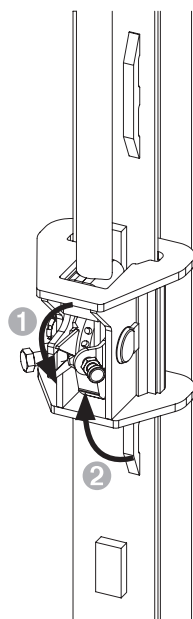
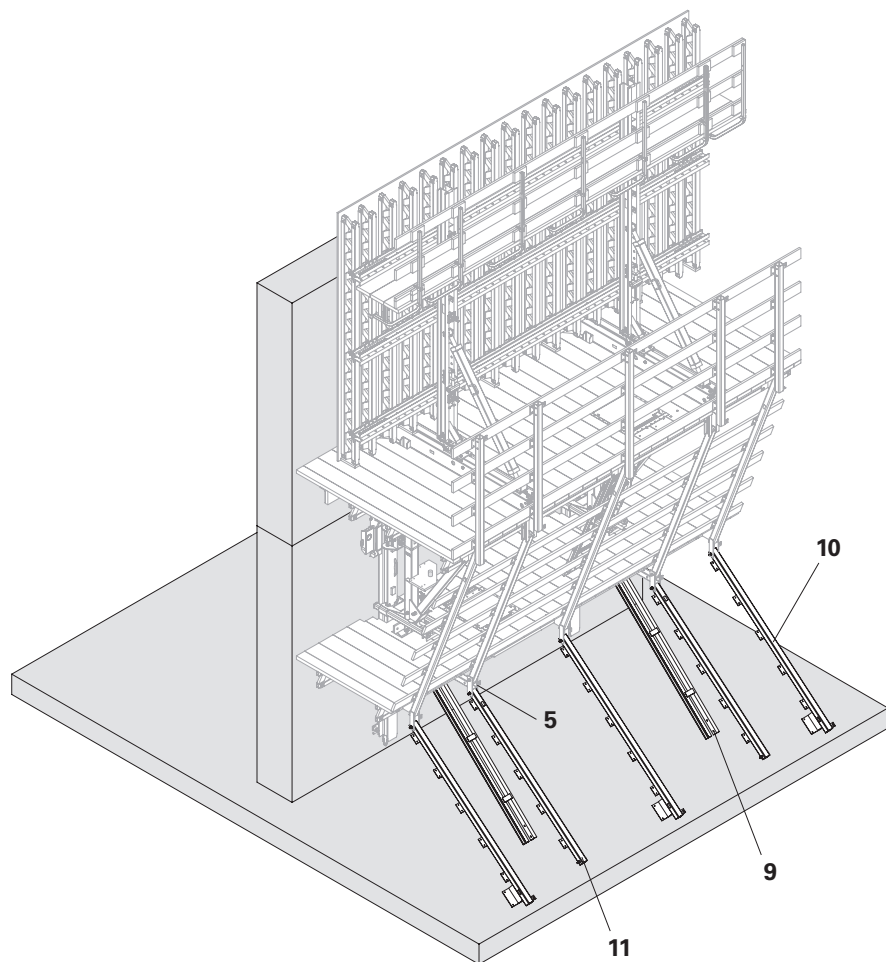

Fig. C6.08
Fig. C6.09
1. Set switch units in all the climbing heads to "Climb platform". (Fig. C6.08)
4. Screw the Finishing Platform Vertical 500 ACS (9) 1x onto the Climbing Platform Beam ACS (5) using the attached assembly materials.
5. Screw the Guardrail Post Finishing Platform ACS I = 2.51 m (11) and the Cantilever Arm Post Finishing Platform ACS I = 2.61 m (10) to the Climbing Platform Beam ACS (5) with the attached assembly materials.
- (Fig. C6.09)